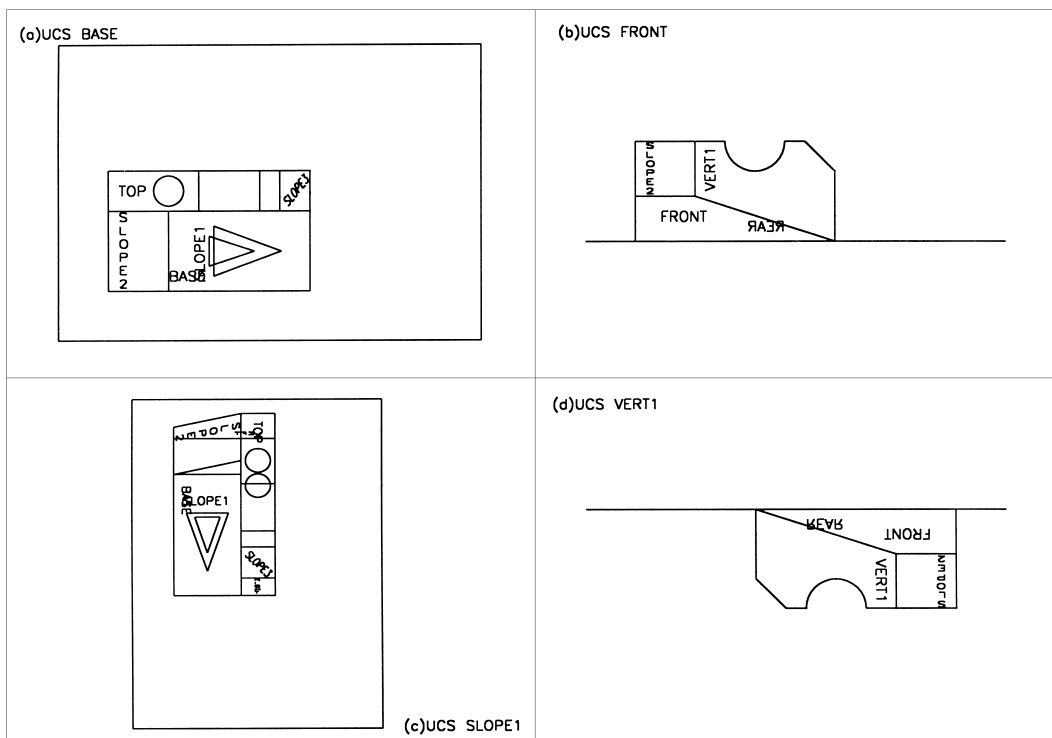

Figure 5.7 The PLAN command with 3DWFM.
- 2 Refer to Fig. 5.7
- 4 Restore UCS FRONT – plan view as Fig. 5.7(b)
- 5 Restore UCS SLOPE1 – plan view as Fig. 5.7(c)
- 6 Restore UCS VERT1 – plan view as Fig. 5.7(d)
- 7 Restore UCS BASE – plan view as Fig. 5.7(a)